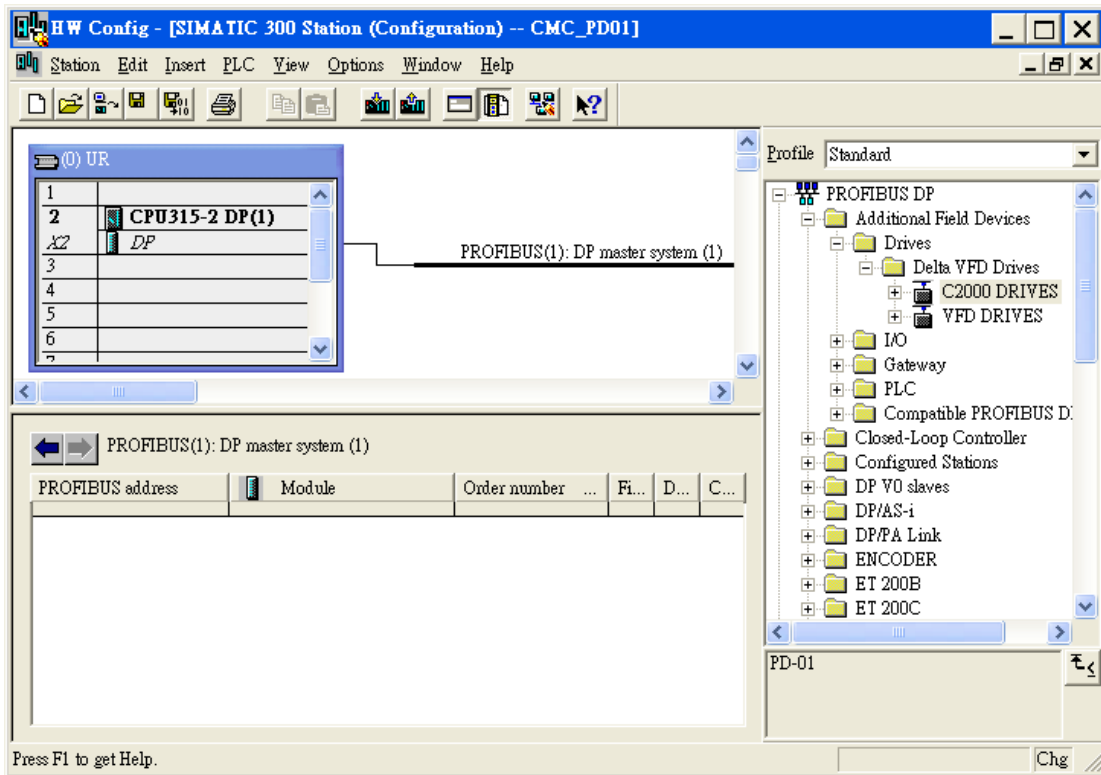

Figure 7-20
1. See Figure 7-20. Select PROFIBUS DP on the right-hand side column and double click “C2000 DRIVES” to open a dialog box.